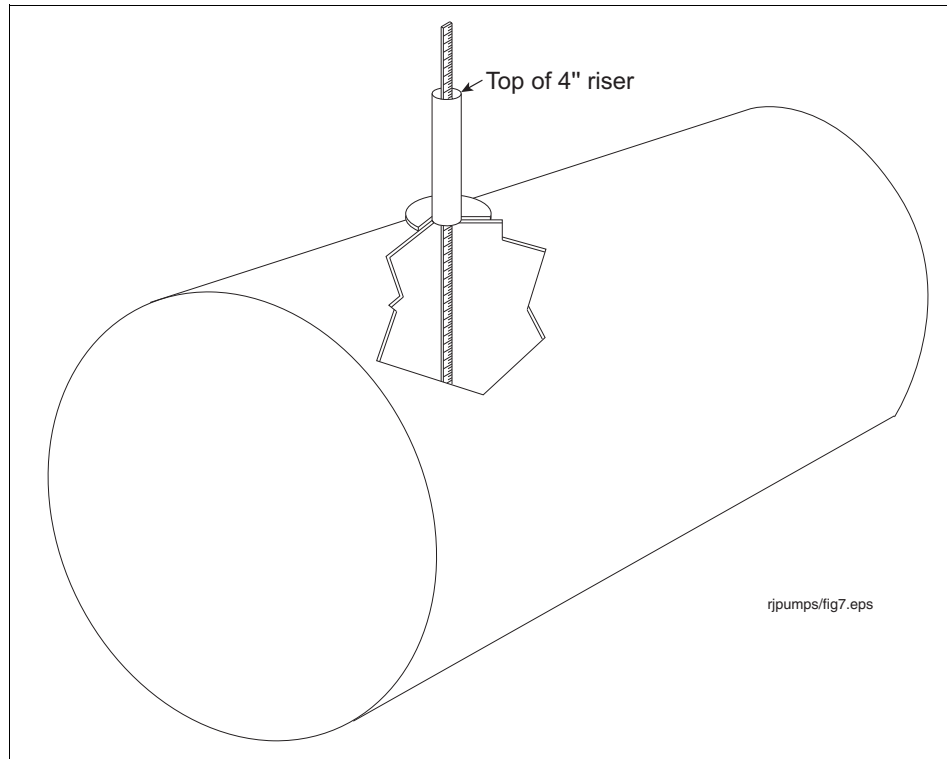

Figure 10. Measuring Tank
2. Measure the distance from the bottom of the tank to the top of the 4-inch riser pipe as shown in Figure 10.